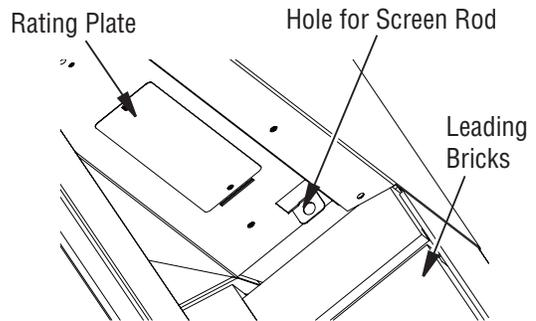

Figure 17 - Installing Fireplace Screen
3. Insert the round end screen rod into hole on the left and right side of smoke shelf (Figure 17).